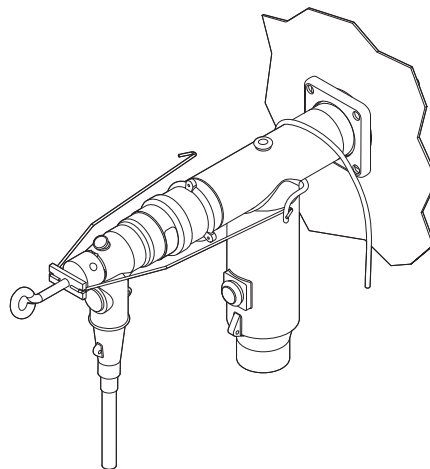

Figure 4. Loose end of CLEERCHAIN pulled over t-body
- Pull CLEERCHAIN up and over the Tee apparatus bushing interface. CLEERCHAIN should now be hanging over the Tee apparatus bushing interface, on the same side as the attached bail hook. (Refer to **Figure 4**).